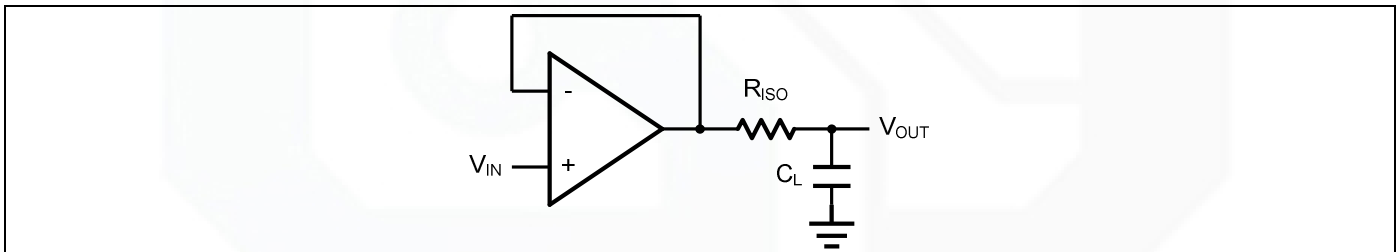
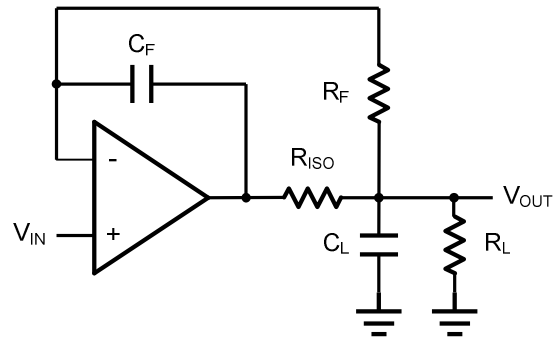

Figure 2. Indirectly Driving a Capacitive Load Using Isolation Resistor
Figure 3. Indirectly Driving a Capacitive Load with DC Accuracy
The LM358 family is optimized for bandwidth and speed, not for driving capacitive loads. Output capacitance will create a pole in the amplifier's feedback path, leading to excessive peaking and potential oscillation. If dealing with load capacitance is a requirement of the application, the two strategies to consider are (1) using a small resistor in series with the amplifier's output and the load capacitance and (2) reducing the bandwidth of the amplifier's feedback loop by increasing the overall noise gain. Figure 2. shows a unity gain follower using the series resistor strategy. The resistor isolates the output from the capacitance and, more importantly, creates a zero in the feedback path that compensates for the pole created by the output capacitance.
The circuit in *Figure 3* is an improvement to the one in *Figure 2*. R_F provides the DC accuracy by feed-forward the V_{IN} to R_L . C_F and R_{ISO} serve to counteract the loss of phase margin by feeding the high frequency component of the output signal back to the amplifier's inverting input, thereby preserving the phase margin in the overall feedback loop. Capacitive drive can be increased by increasing the value of C_F . This in turn will slow down the pulse response.